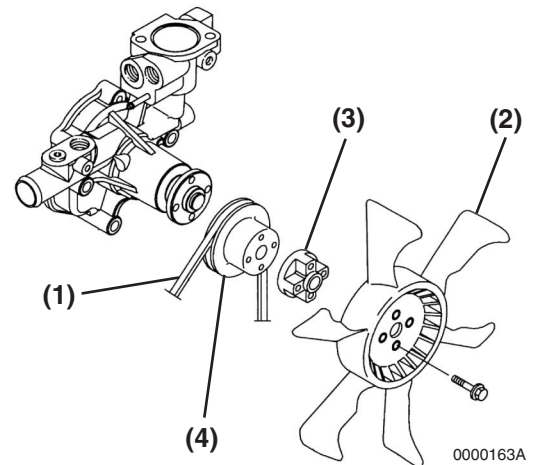

Figure 7-7
2. Remove the engine cooling fan guard (if equipped), engine cooling fan (**Figure 7-7, (2)**), spacer (**Figure 7-7, (3)**) if equipped, V-pulley (**Figure 7-7, (4)**) and cooling fan V-belt (**Figure 7-7, (1)**).